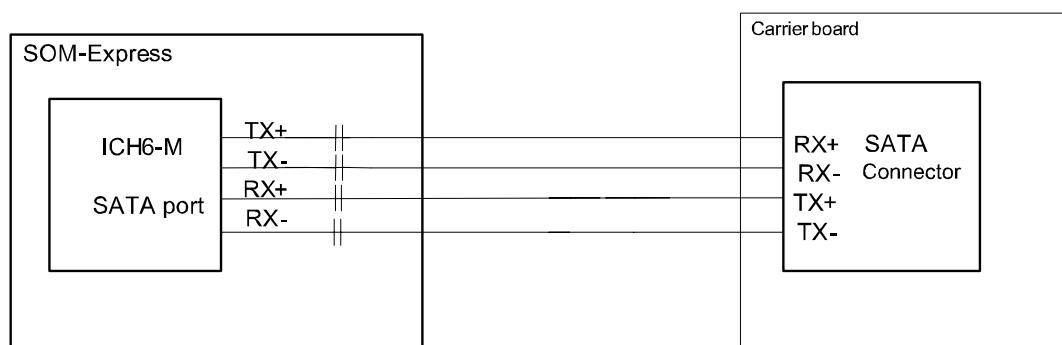

Figure 5-51 SATA interconnect example
Both the TX and RX SATA differential pairs require AC coupling capacitors. Figure 5-51 shows the connection for SOM-Express SATA signals. All AC coupling capacitors close to the transmitter (TX) and receiver (RX) are placed on the SOM-Express board. Please do not the place AC coupling capacitors on your carrier board.